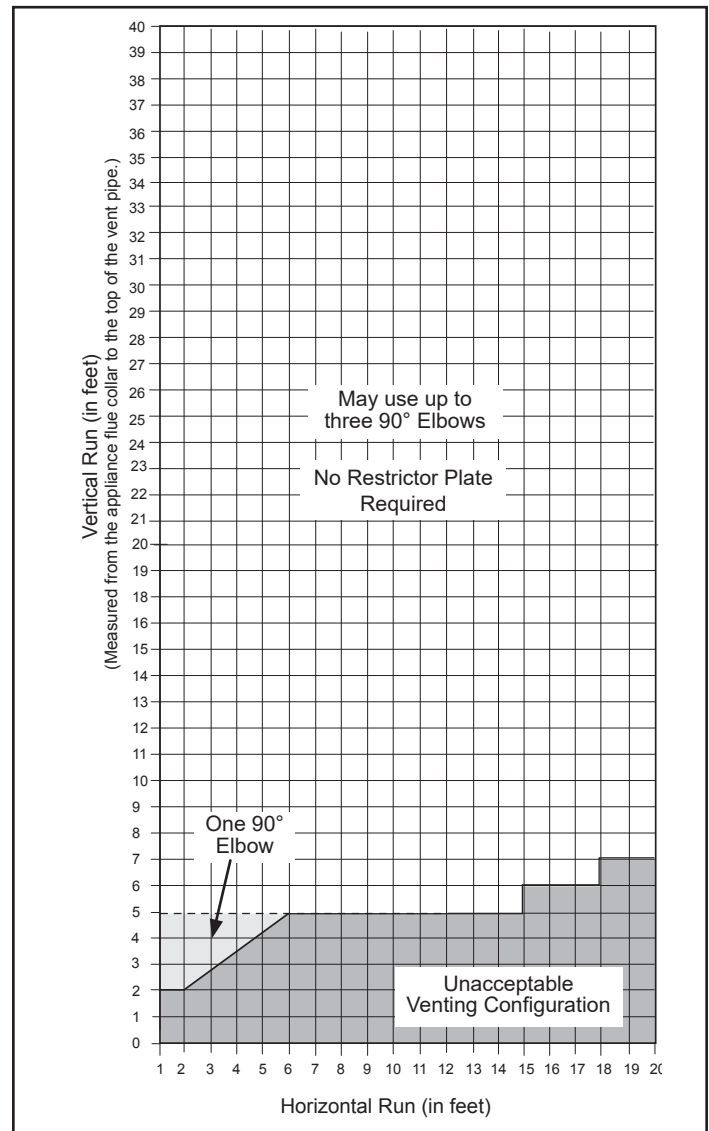

Figure 2.7 - Horizontal vent termination window.
- Approved vent systems must terminate above and including the heavy line in Figure 2.7.